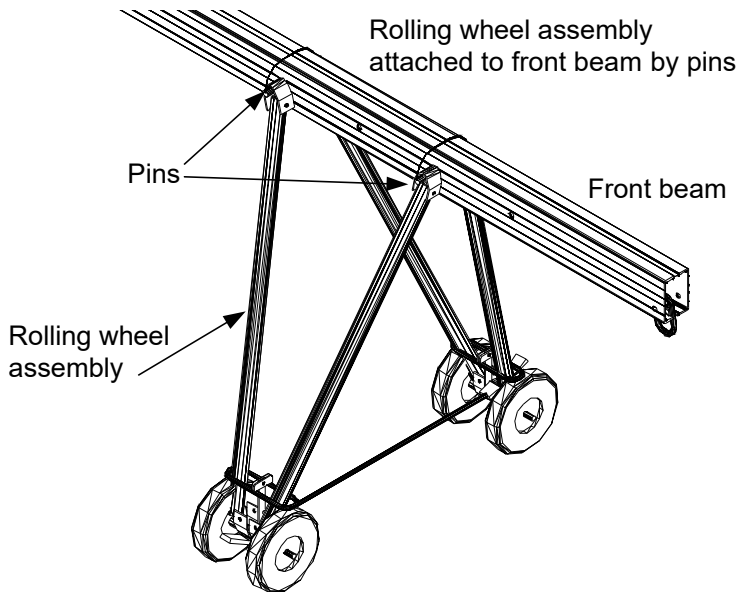

Figure 27. Rolling Wheel Assembly with Front Beam
2. Attach the rolling wheel assembly to the Front Beam and Mid Beam using the Pins (PC 42 07) (see Figure 27). Legs must be pinned at 24" hole spacing. Be sure to insert the pins all the way through the bracket and install the retaining clips.